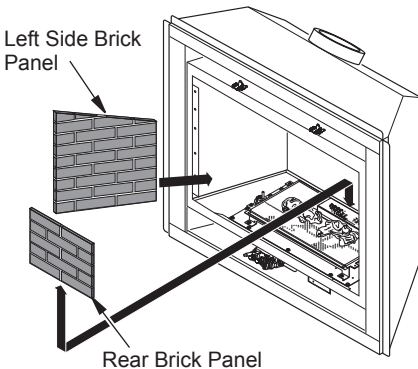

Figure 44 - Installing Rear Brick Panel
6. Install rear brick panel first. Rest bottom edge of panel on back edge of burner assembly (see Figure 44).
7. Install left side brick panel by sliding it between burner assembly and side of firebox (see Figure 44).